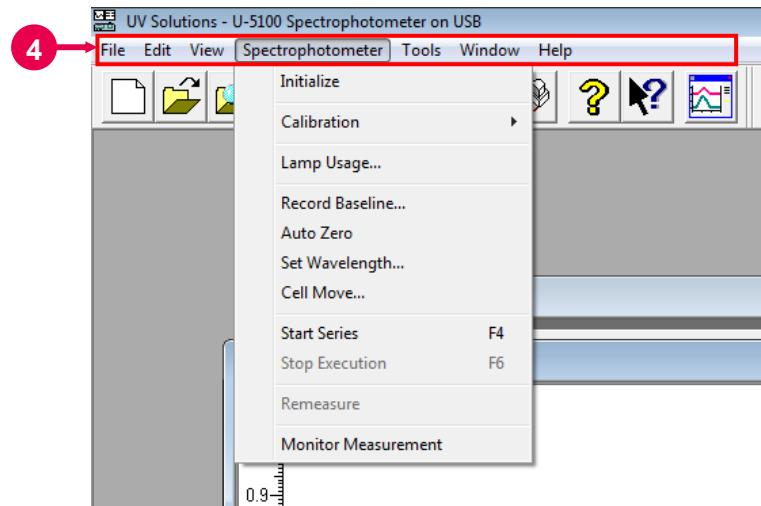

Fig. 1-35 Menu Bar and Commands
- The menu bar is the row of menu names such as “File (F)” and “Edit (E)”.
(2) Commands
- Commands are the functions selectable in each menu. Indicated in Fig. 1-35 is the “Start Series (S) command in Spectrophotometer (S) menu”.